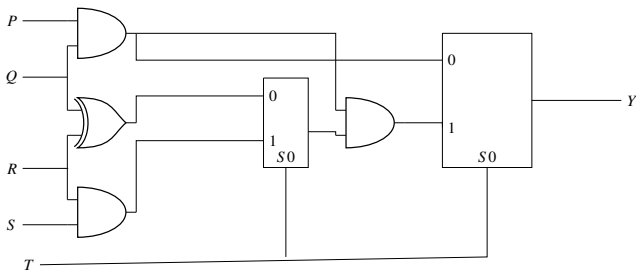

Fig. 3.19: circuit diagram
36. The propagation delays of the XOR gate, AND gate and multiplexer (MUX) in the circuit shown in Fig. 3.19 are  $4ns$ ,  $2ns$  and  $1ns$ , respectively. If all the inputs  $P, Q, R, S$  and  $T$  are applied simultaneously and held constant, the maximum propagation delay of the circuit is (GATE-EC2021,31)